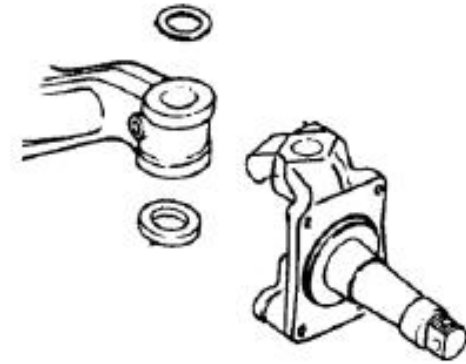

图 5-19
- (7) 拆下转向节、止推轴承和调整垫片。(图 5-19)